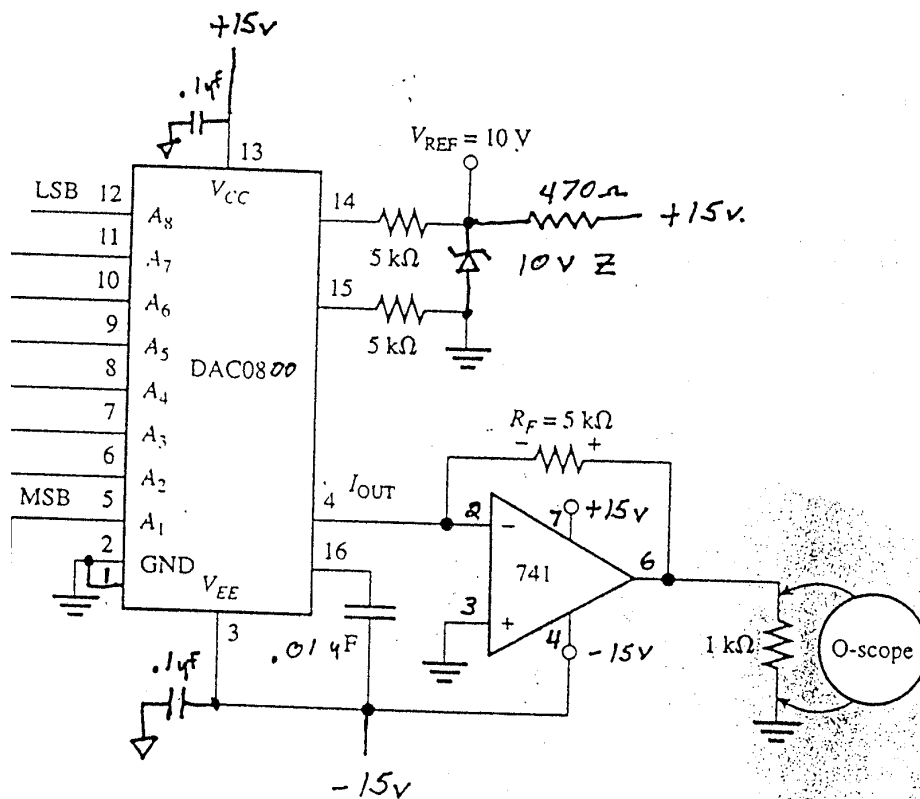

Figure 4
This experiment requires that you tie the Analog to Digital circuit from lab #3 (also shown in Figure 3) to the input of the Digital to Analog circuit, Figure 4.
The 8-bit output of the ADC, Figure 3, gets connected to the 8-bit input of the DAC0800, Figure 4. Do this as follows: connect the MSB of the ADC (pin 11 of the ADC0804), to the MSB of the DAC (pin 5 = A1 of the DAC0800). Next, connect pin 12 above to pin 6. Do this for each bit, ending with the LSB, so that pin 18 (LSB output of the ADC) is connected to pin 12 (LSB input of the DAC).
- e. Now construct the DAC circuit shown in Figure 4. Connect the eight bits at the output of the ADC to the eight-bit input of the DAC. Remember that the way the LEDs are connected, each LED will light up when the bit it represents is low = 02.